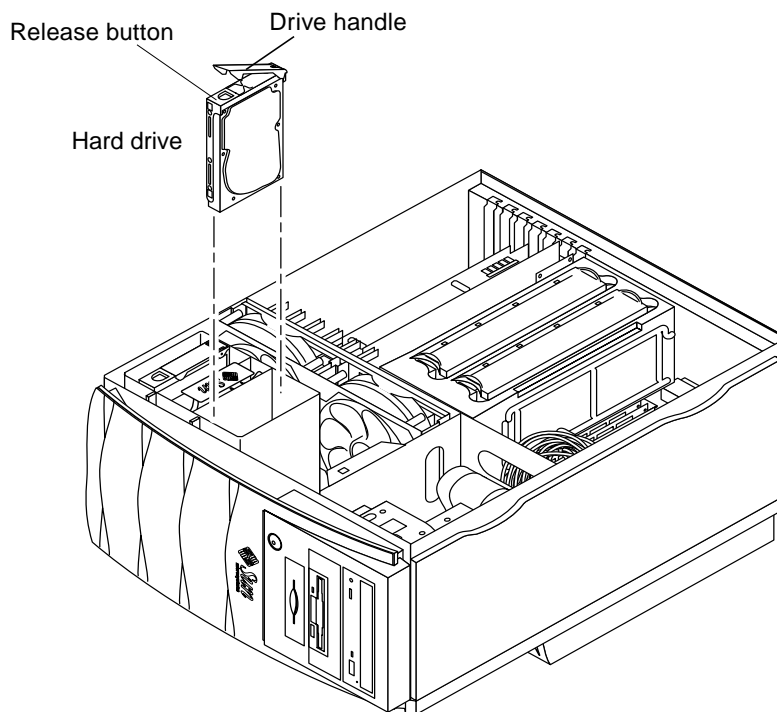

FIGURE 7-1 Removing and Replacing a Hard Drive
2. Release the drive handle by pushing the handle release button toward the front of the chassis housing (FIGURE 7-1).
1. **Holding the drive handle, insert the hard drive into the hard drive bracket along the vertical plastic guides until the hard drive handle starts to close (FIGURE 7-1).**